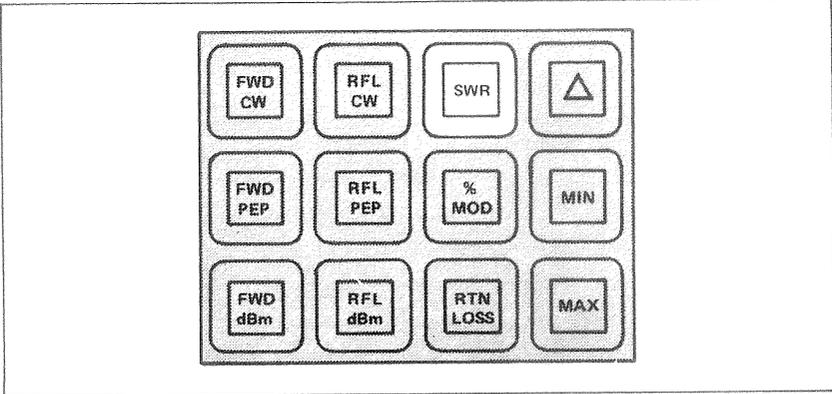

Figure 3-3. Standing Wave Ratio (SWR).
c. Reading SWR. (Figure 3-3.) Two elements are required for this mode and they must have a 10 to 1 power range ratio. Press the SWR key momentarily. If the average forward power is between 10% and 120% of the full scale and the average reflected power is less than 120% of the reflected element range, SWR will be displayed. If any of the above conditions are not met, an error message will be displayed. Two arrows pointing to the right — or “greater-than” symbols — indicate over-range, while two left pointing arrows — or “less-than” symbols — indicate under-range or too little power. Refer to Table 3-1.